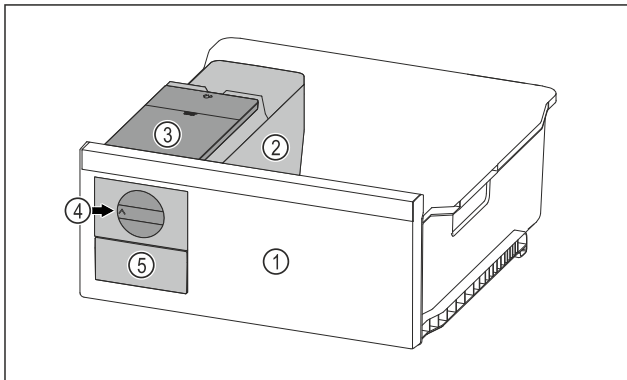

*Fig. 69*
- ▶ Guide drawer in at an angle around the stoppers *Fig. 69 (1)*.